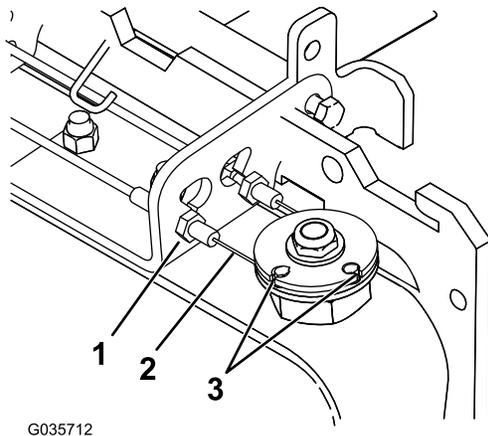

Figure 8
- Thread the cables through the front bracket and install the other nuts onto the cable (Figure 8).
- Slide the ends of the cables into the slots in the pulley (Figure 8).
- Adjust the nuts on the cables so that the cables are not loose between the bracket and pulley (Figure 8).